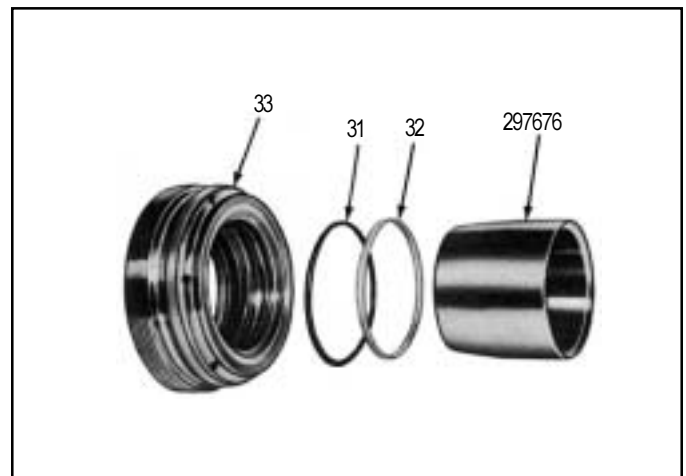

FIGURE 34
Remove from the valve nut(33), the three teflon glide seal rings(32) and the three O-Rings(31) and install new ones. When they are in their respective grooves, insert the tool 297676 to seat them. (See Figure 34)